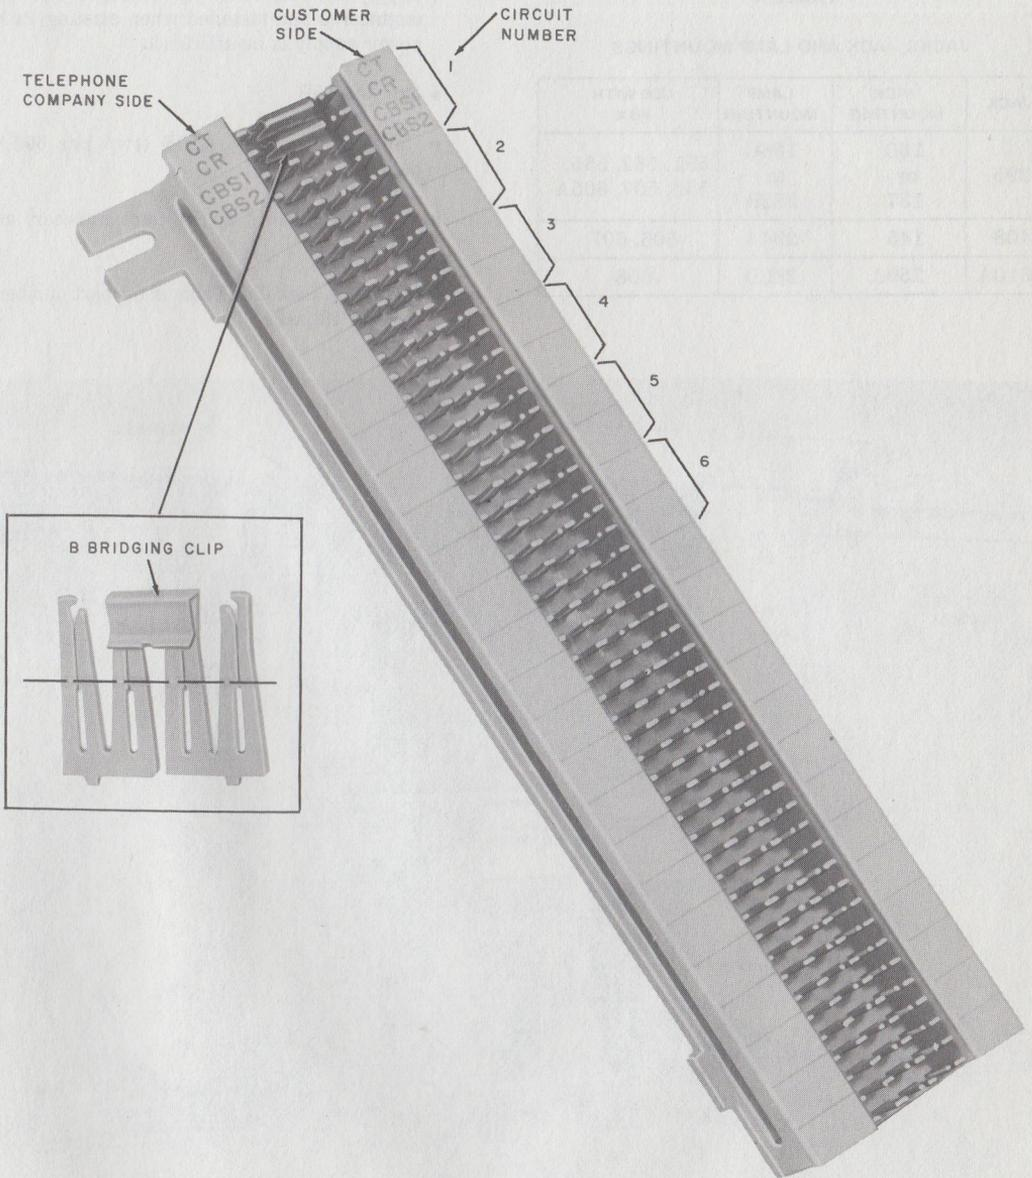

Fig. 2—66M1-50 Interface Connecting Block
- Block, Connecting, 66M1-50 (Fig. 2).
3.03 Extend CT, CR, CBS1, and CBS2 leads from 66B4-25 connecting block to 66M1-50 interface connecting block for access to CP equipment. Stencil lead designations on interface connecting block as shown in Fig. 2.
3.05 The customer must terminate the CP equipment on the 66M1-50 interface connecting block using the four terminals stenciled on the customer side (Fig. 2).
3.09 Extend CT, CR, CBS1, and CBS2 leads from the 66B4-25 connecting block to the 66M1-50 interface connecting block for access to the CP equipment. Stencil lead designations on 66M1-50 connecting block as shown in Fig. 2.